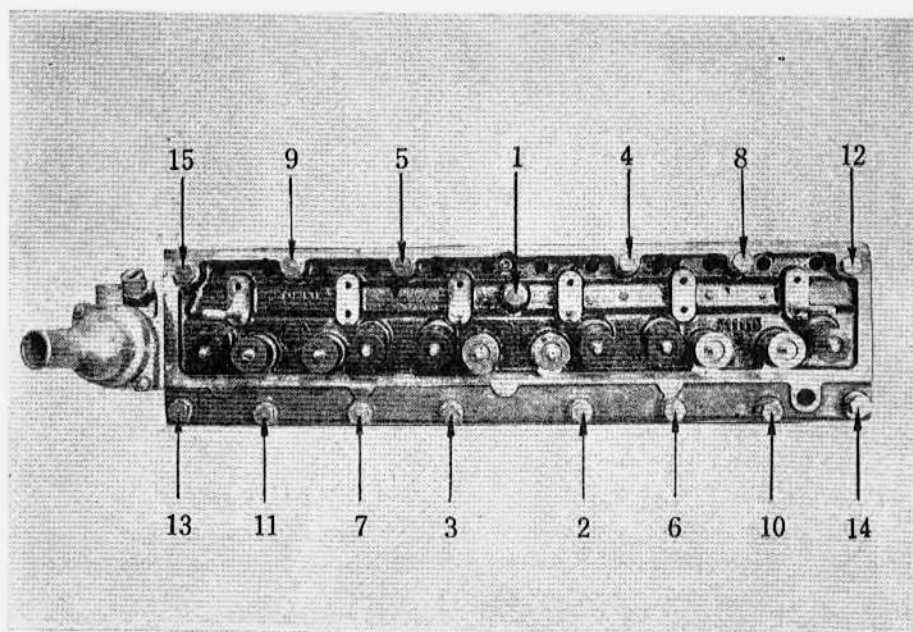

Figure 27 - Cylinder Head Bolt Tightening Diagram
(2) Place the cylinder head in position over the gasket.
(3) Oil threads of cylinder head bolts and install bolts finger tight. In installing cylinder head bolts, bond straps should be installed together with the first and last bolts on left side of cylinder head, and air cleaner bracket with the second and third bolts from the front on left side of cylinder head.
(4) Tighten the cylinder head bolts a little at a time in the order shown Figure 27.